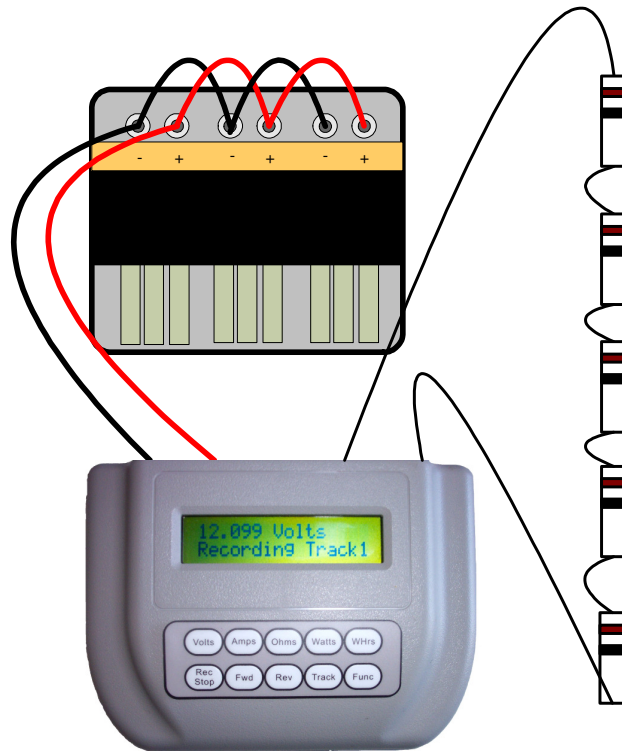

Figure 3 – Solar Panels in Series with 50 ohm Resistor Load
11. Hookup the solar panel in parallel along with five 10 ohm resistors as in Figure 3.